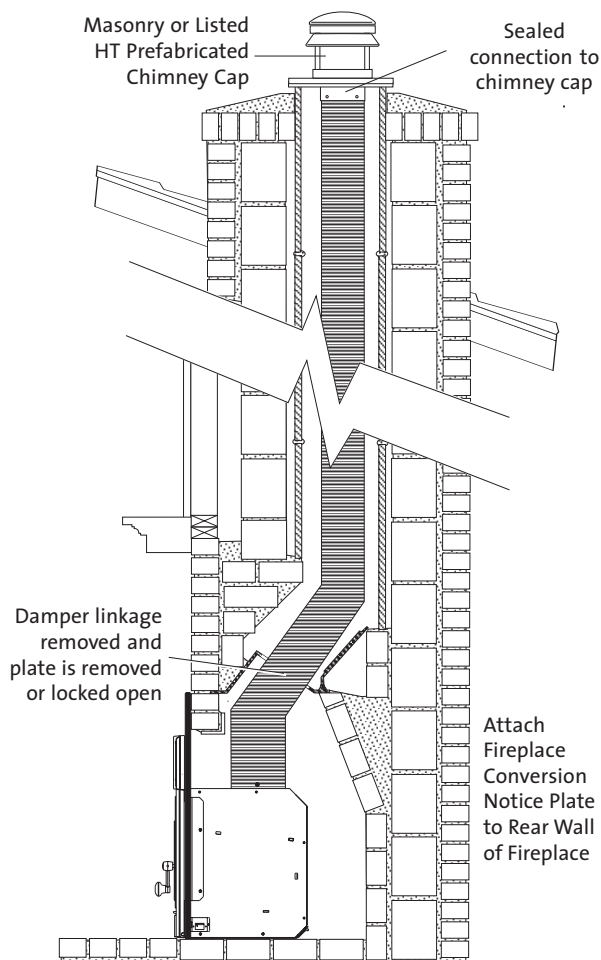

Figure 8. Positive Chimney Connection - Canada.
The insert must be installed with a continuous chimney liner of 6" (152 mm) diameter extending from the fireplace insert to the top of the chimney. The chimney liner must conform to the Class 3 requirements of CAN/ULC-S635, Standard for Lining Systems for Existing Masonry or Factory-Built Chimneys and Vents, or CAN/ULC-S640, Standard for Lining Systems for New Masonry Chimneys. See fig. 8.
1. With the help of an assistant, slide the Firebox into the fireplace cavity. If using a Riser Bar, the Firebox must be engaged with the Riser by means of the Locking Pin included in the hardware bag. Pull the Left Blower forward out of the way to access the Locking Pin hole in the firebox floor. See figs. 8 and 9. When the front edge to the firebox is aligned with the front edge of the Riser, the Locking Pin hole will be aligned with the slot in the top of the Riser Bar crossmember. Insert the Locking Pin and pull the firebox out slightly proud of the fireplace face to facilitate attaching the surround panels. Relocate the blower.